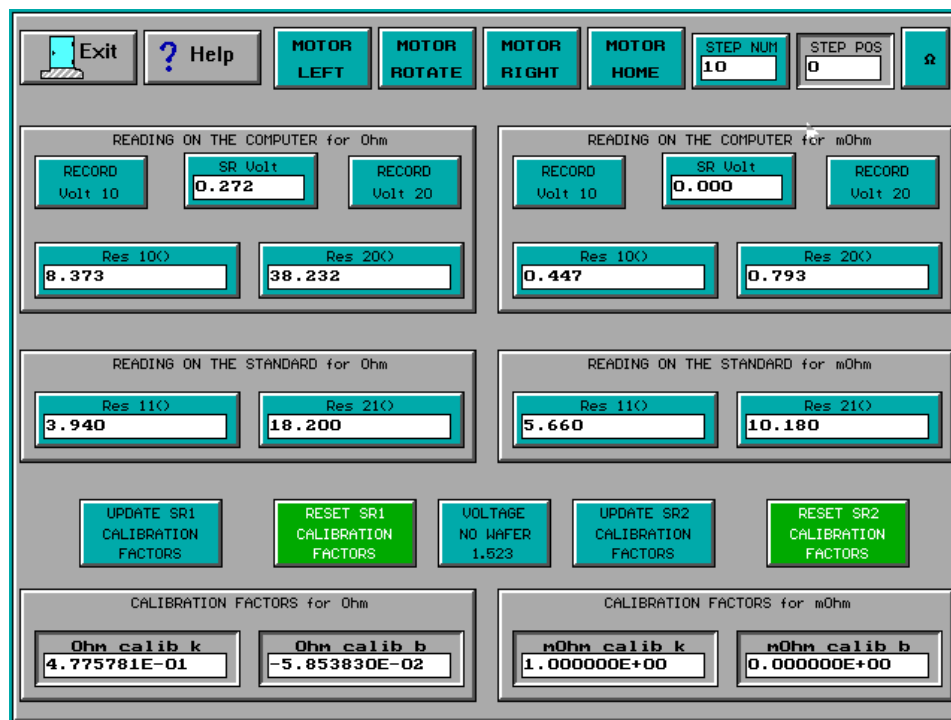

Figure 5.9: Calibration screen
Calibration of the M-Gage™ system with the AW-M300 control software is done entirely from within the software for maximum performance and accuracy. The calibration functions are automated which means less time is spent calibrating the system. There are calibration routines for Ohm and mOhm (figure 5.9).
The *Calibration* screen, figure 5.9, is used to correct for any offset that might develop in the analog circuitry. There are 2 kinds of offset: the zero offset (k) and the linear offset (b).
- Step 2. Go to the *Calibration* screen, figure 5.9, by clicking on the **Calibration** button from the *Main Menu*, figure 5.2.